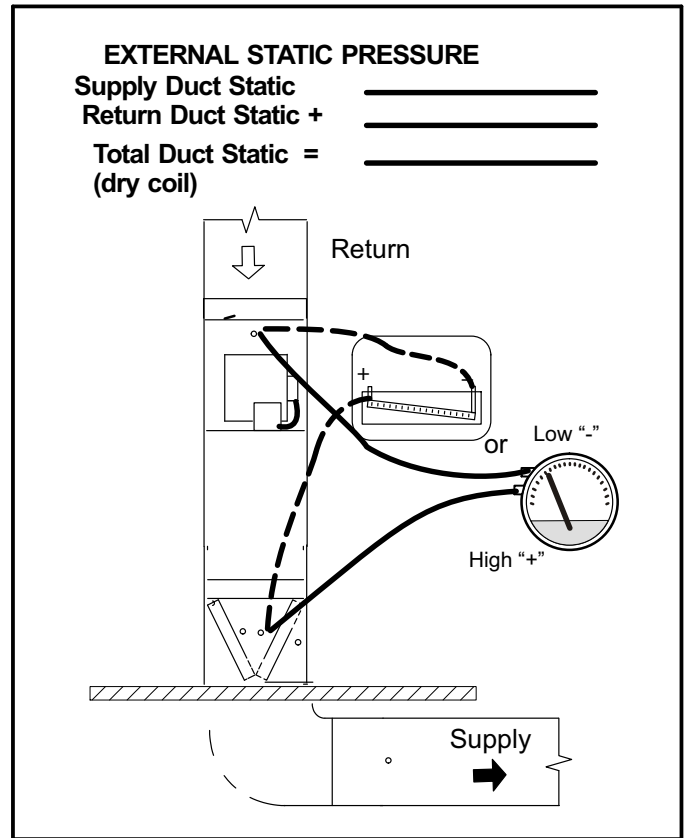

FIGURE 23
- 1 - Tap locations shown in figure 23 .